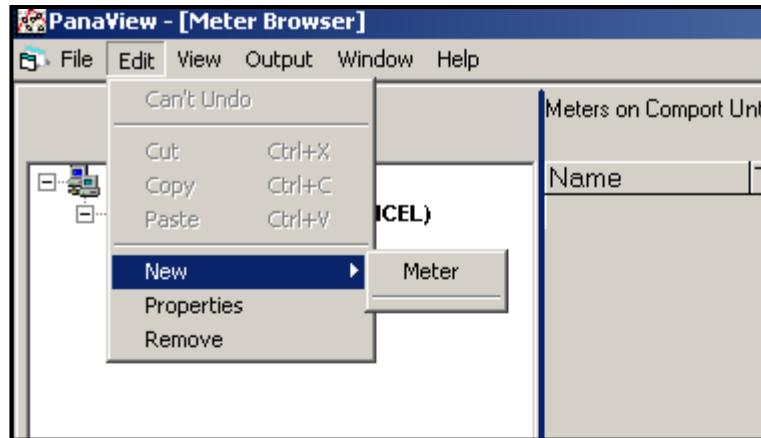

Figure 36: New Option in the *Edit* Menu
2. Click on the *New* option in the *Edit* menu (see Figure 36).